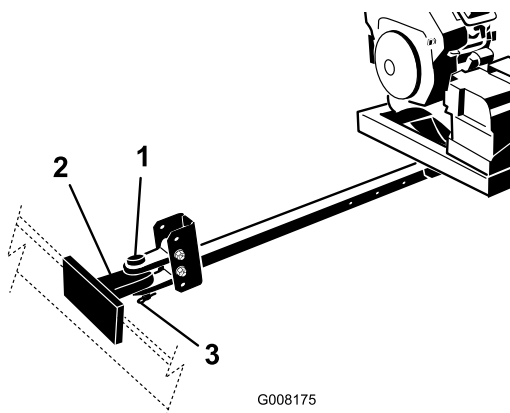

Figure 6
7. Connect the blower hitch clevis to the tow vehicle hitch with the hitch pin and lynch pin (Figure 6).